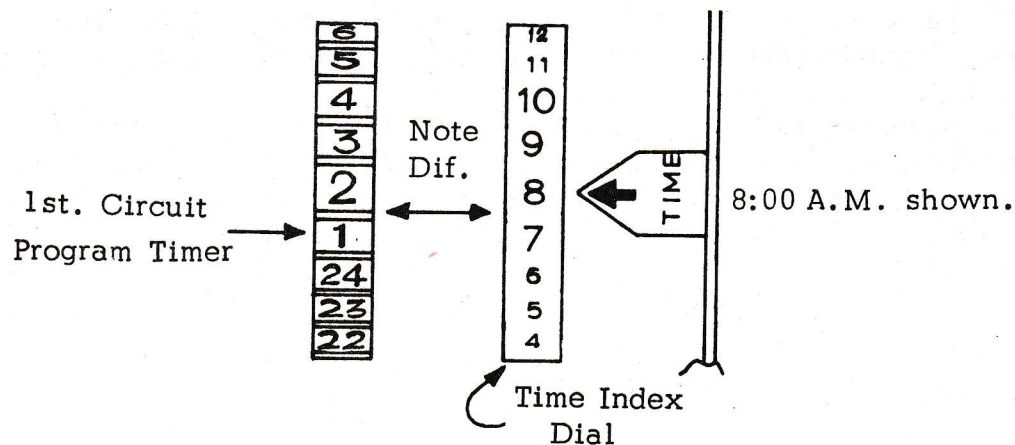

Figure VIII-5
1. Turn the setting knob until the correct time of day is indicated by the arrow and the number on the time index dial. See Figure VIII-5.